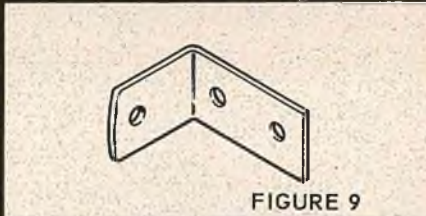

FIGURE 9
Step 19. Make engine angle braces from .010 aluminum and drill mounting holes but do not mount. Fig. 9.